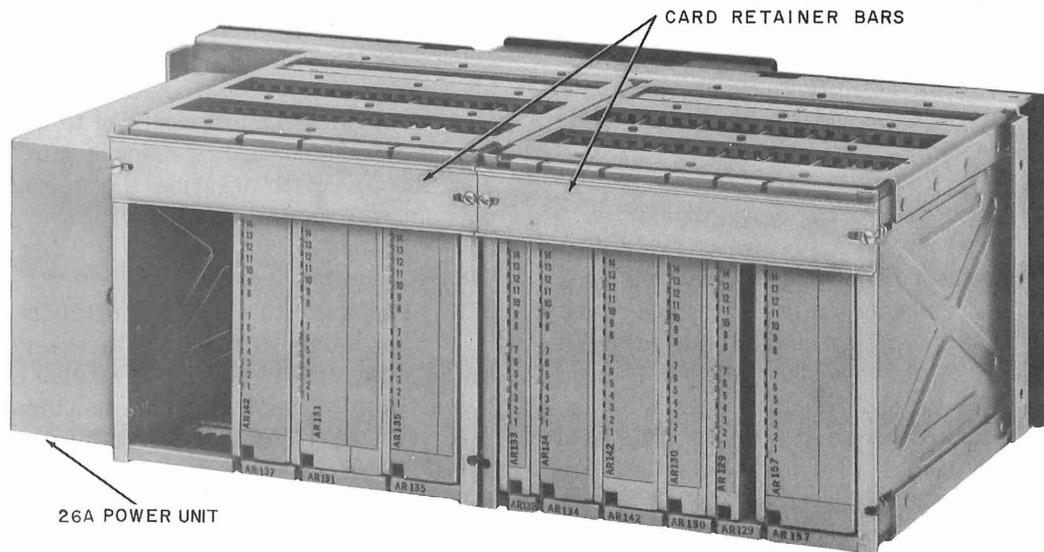

Fig. 1—Data Set 303-Type—Front View
**2.01** The DS 303-type weighs approximately 23 pounds and has external dimensions of 17 inches wide, 6 inches high, and 10 inches deep (Fig. 1).